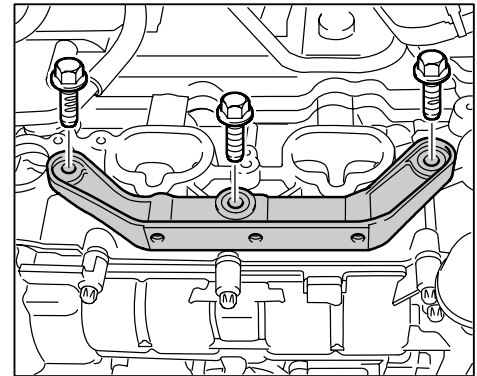

Figure 6
- 2.3.4 Remove brackets for muffler support from the old cylinder heads and fit them on the new cylinder heads using the old hexagon-head bolts M8 x 40 (1 x per bracket) and M8 x 25 (2 x per bracket) ⇒ Figure 6.